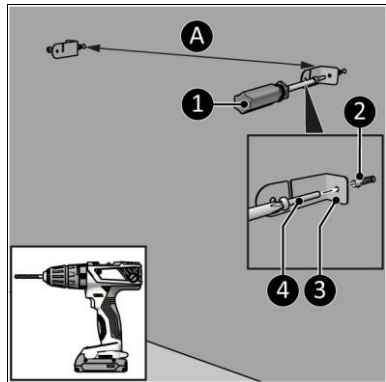
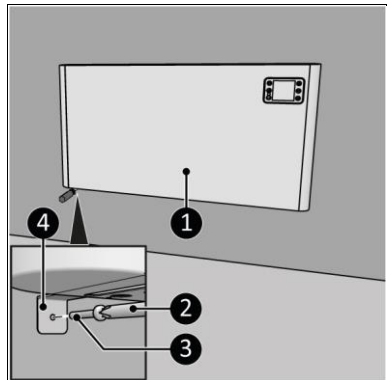

Figure 10
Figure 13
4. Drill two holes at least 610 mm above the floor and with a distance of (Figure 10, pos. A):
5. Place wall plugs (Figure 10, pos. 2).
6. Screw and tighten a left and a right bracket (Figure 10, pos. 3) to the wall with a large screw (Figure 10, pos. 4) using a Phillips screwdriver (Figure 10, pos. 1).
15. Screw and tighten the device brackets (Figure 13, pos. 4) with a large screw (Figure 13, pos. 5) to the wall (Figure 10, pos. 3) using a Phillips screwdriver (Figure 13, pos. 2).